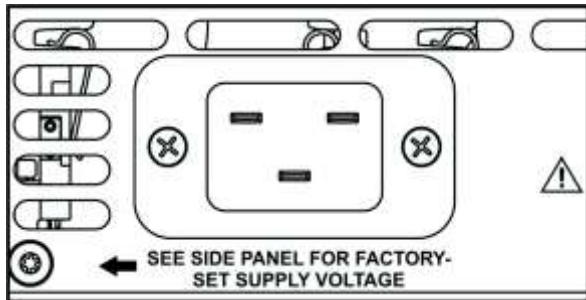

Figure 2.4 – Close-up of AC Mains Outlet
The power cord connects to a standard 20 amp 3-pin IEC-type male connector on the back panel (see Figure 2.4). Make sure the Breaker/Switch on the front panel is switched to the OFF (O) position. Make sure the power cord is inserted and seated fully into the IEC connector by moving it slightly back and forth and up and